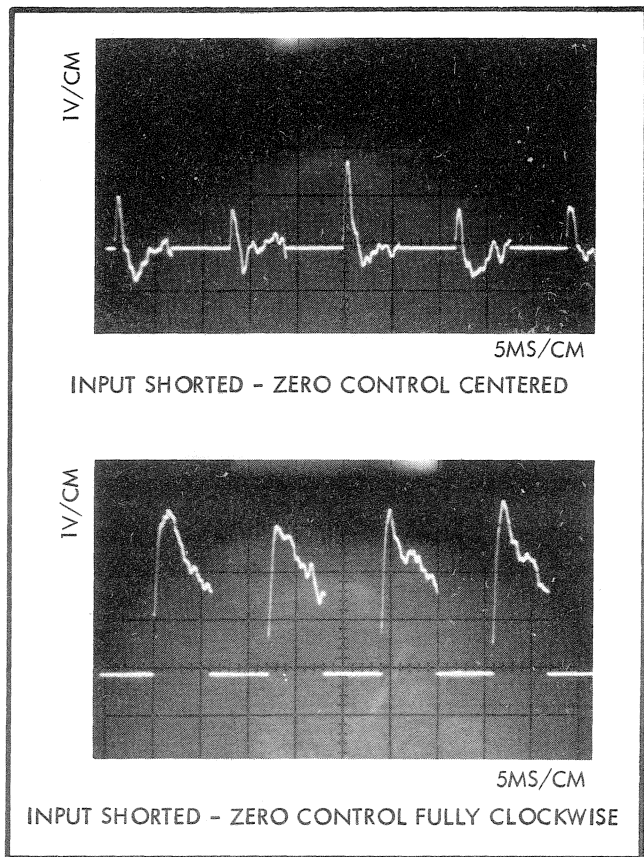

Figure 4-5. WAVEFORMS AT TP6
c. Adjust R206 until the oscilloscope waveform has a time period of 12 milliseconds, as illustrated in Figure 4-5.